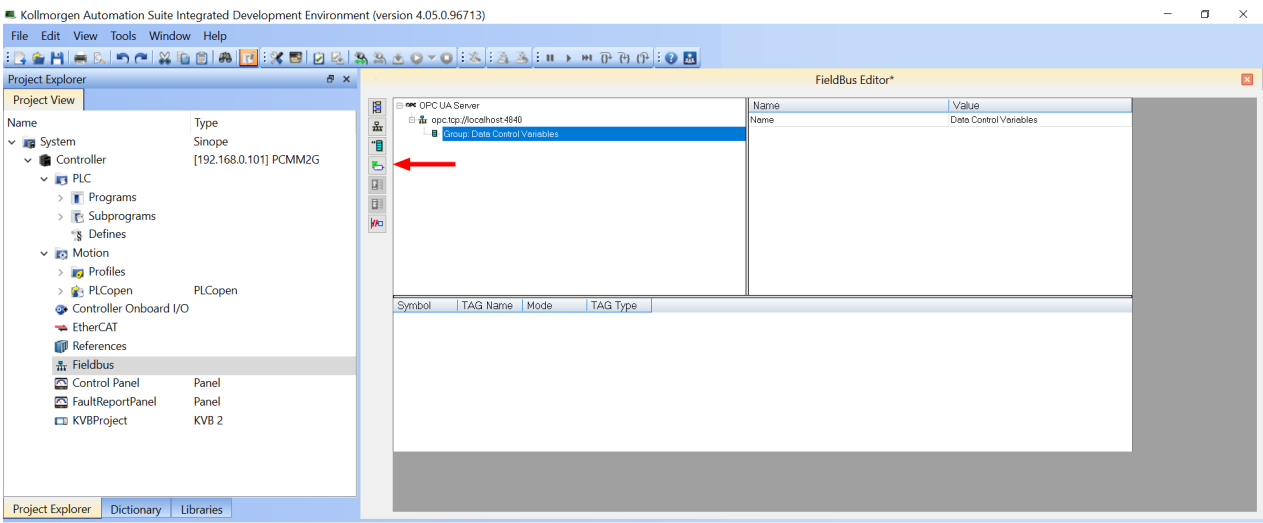

Figure 2-12: Insert Variable button
1. In the Fieldbus Editor tree, select the **OPC UA Server** data group to assign a new variable to. The **Insert Variable** button in the vertical toolbar is activated. (Figure 2-12)